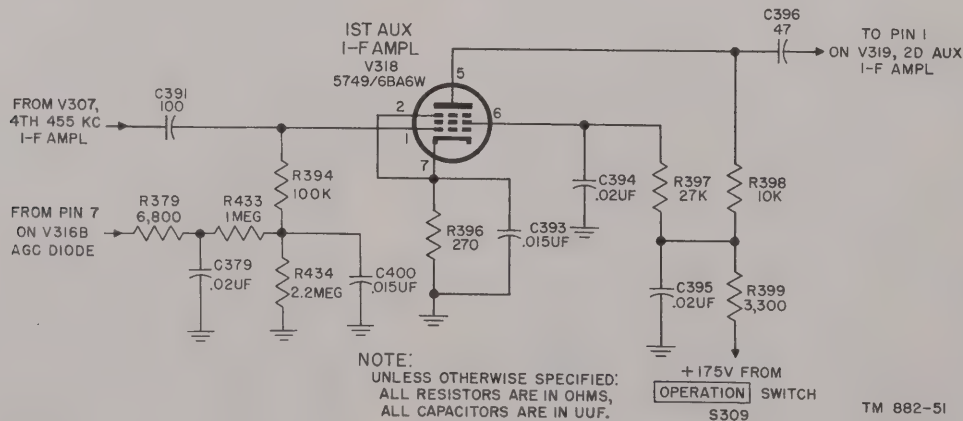

Figure 62. First auxiliary i-f amplifier.
(figs. 62, 63, and 64)
a. First Auxiliary I-f Amplifier (fig. 62).
The first auxiliary i-f amplifier, V318, isolates the a-m and f-m circuits from the auxiliary circuit. The signal from the fourth 455-kc i-f amplifier is coupled to the control grid of V318 through the common coupling capacitor, C338 (not shown on fig. 62), and the auxiliary circuit coupling capacitor, C391; the primary function of C391 is to separate the control grid of V318 from the control grid of the a-m i-f amplifier, V314. This permits simultaneous operation of the auxiliary circuit with either the f-m or the a-m circuit. B+ to V318 is supplied through